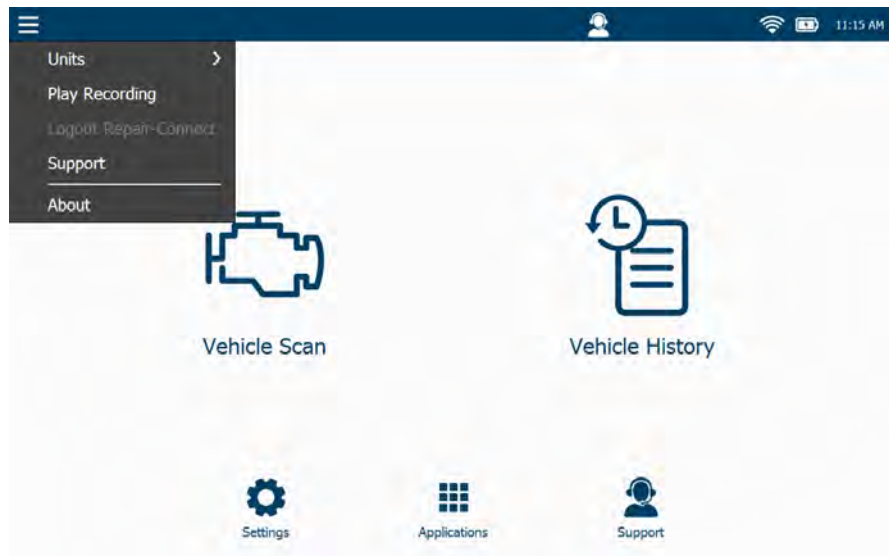

Figure 9.6 Main Menu Showing the Drop-down Menu
- **Exit**—go back to the Main Menu (Figure 9.6).
- 4 When you are finished playing the recording, touch **Exit** to go back to the Main Menu (Figure 9.6).